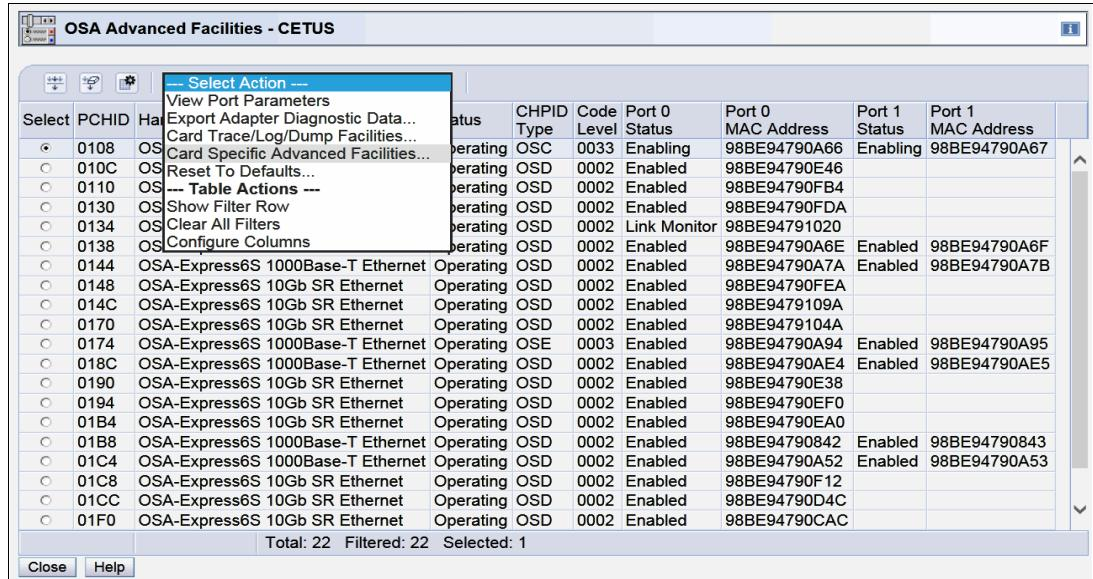

Figure 7-1 Card Specific Advanced facilities
2. Select the OSC PCHID to be used for the new OSA-ICC configuration, and select **Card specific advanced facilities** (Figure 7-1).